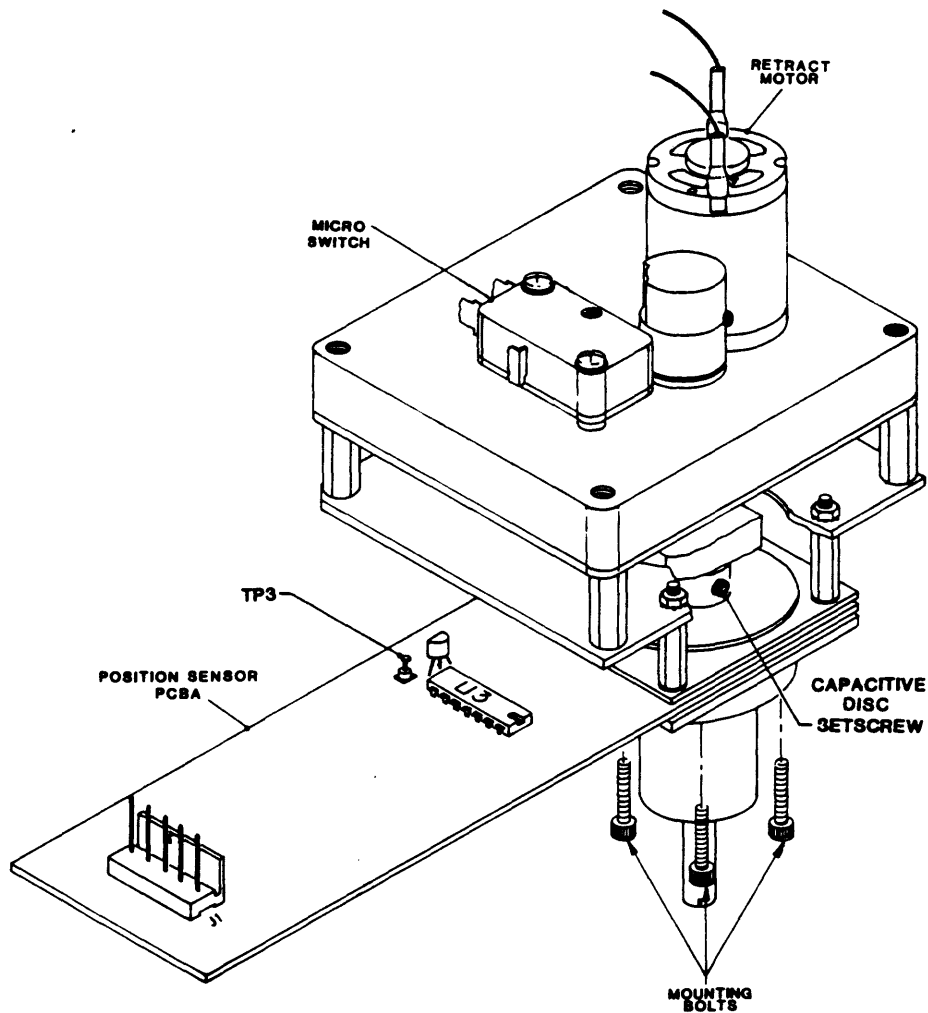

Figure 4-9 Takeup Arm Retract and Pivot Sensor Assembly
4.3.8 TAKEUP-ARM RETRACT AND PIVOT SENSOR ASSEMBLY (Fig. 4-9)
4.3.20 RETRACT AND PIVOT SENSOR (TAKEUP) (Fig. 4-9)